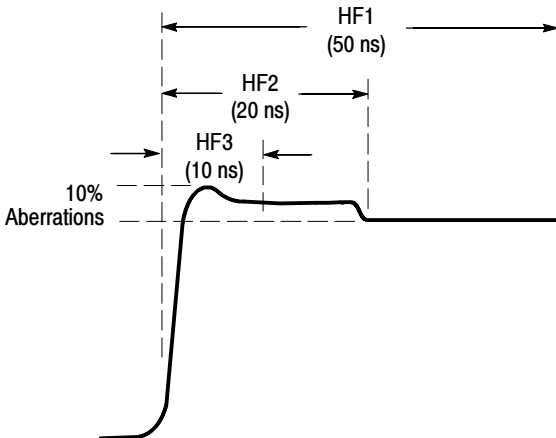

Figure 9: HF compensation regions of fast rise signal
10. Adjust **HF1** for flatness and adjust **HF3** for the best front corner. See Figure 9. Because all adjustments interact, readjust **HF1**, **HF2**, and **HF3** as necessary to achieve the best compromise between the fastest rise time and minimum aberrations.